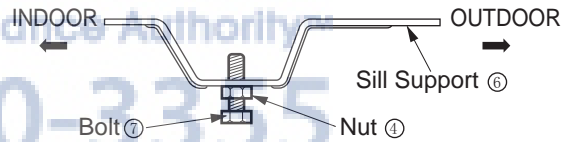

Fig. 3
3. Cut the window sash seal to the proper length. Peel off the backing and attach the Foam-PE to the underside of the window sash. (Fig.3)
3. Loosely assemble the Sill Support[®] using the parts. (Fig. 3)